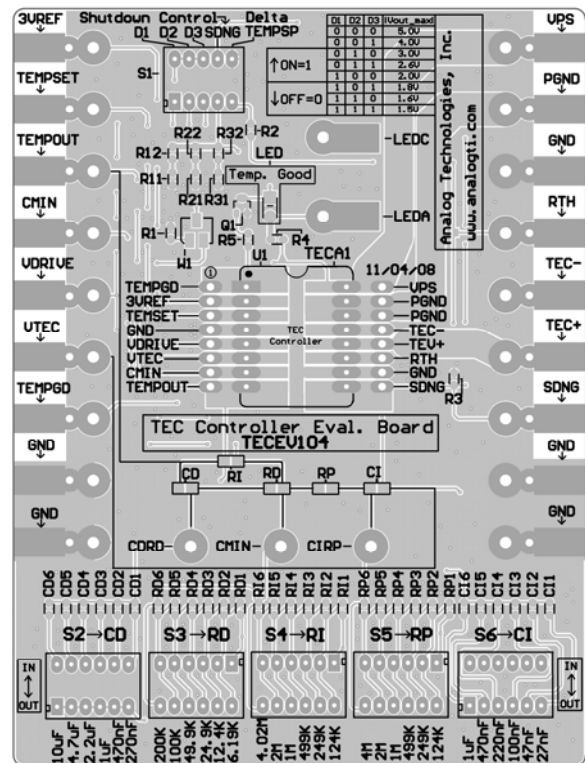
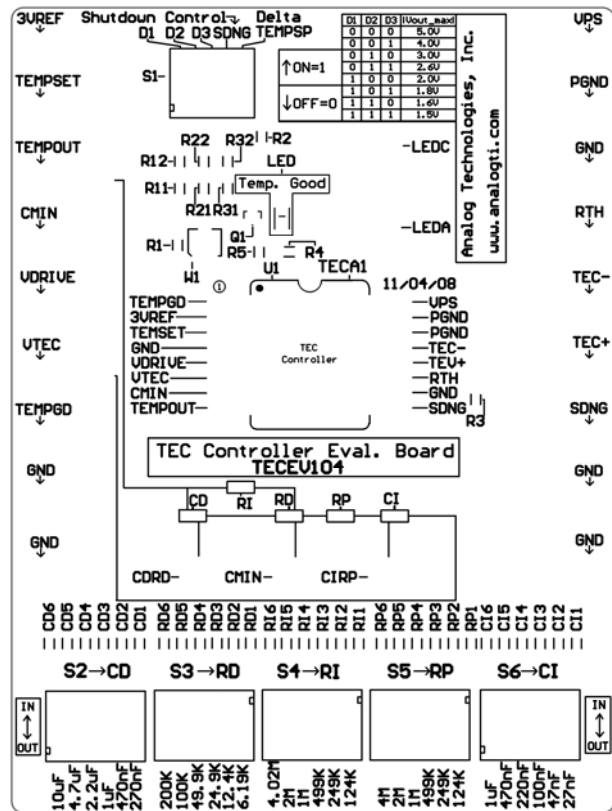

Figure 2. Top Silkscreen Layer with Other Top Layers
Figure 3. Top Silkscreen
The silkscreen layer of the evaluation board is shown in Figure 2 with other top layers, including top silkscreen, top copper, top solder mask, and multilayer (vias). Figure 3 only shows the image of top silkscreen layer. There is no component in the bottom side of the board, so that there is no bottom silkscreen layer image.
4. After tuning, the values of the capacitors for C_D and C_1 can be read off the capacitor selection switches. The values of the resistors, R_I , R_d and R_P , can be measured by an Ohmmeter by connecting to the resistor pins. As seen in the photo of Figure 3, R_I can be read off between TEMPOUT